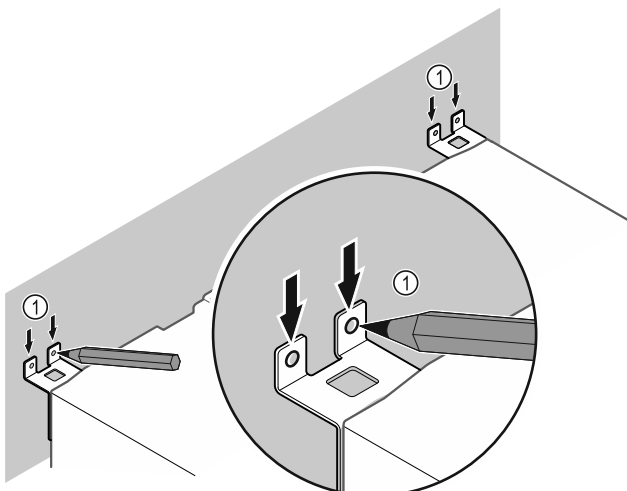

Fig. 10
- Make markings on the wall Fig. 10 (1).